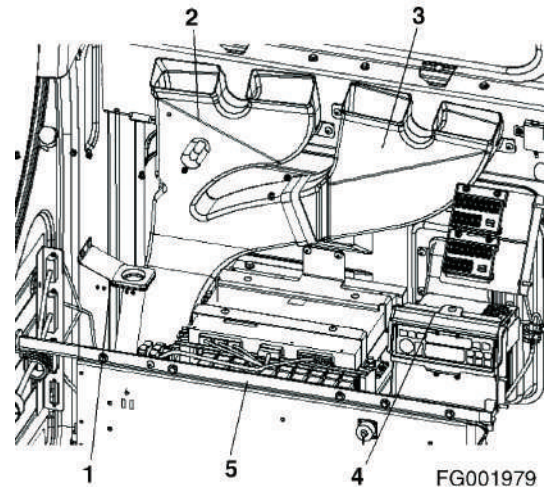

Figure 12
9. Install across bar (5, Figure 12) between left and right side of cabin.
10. Install air ducts (1, 2, 3 and 4, Figure 12) from cabin rear panel.